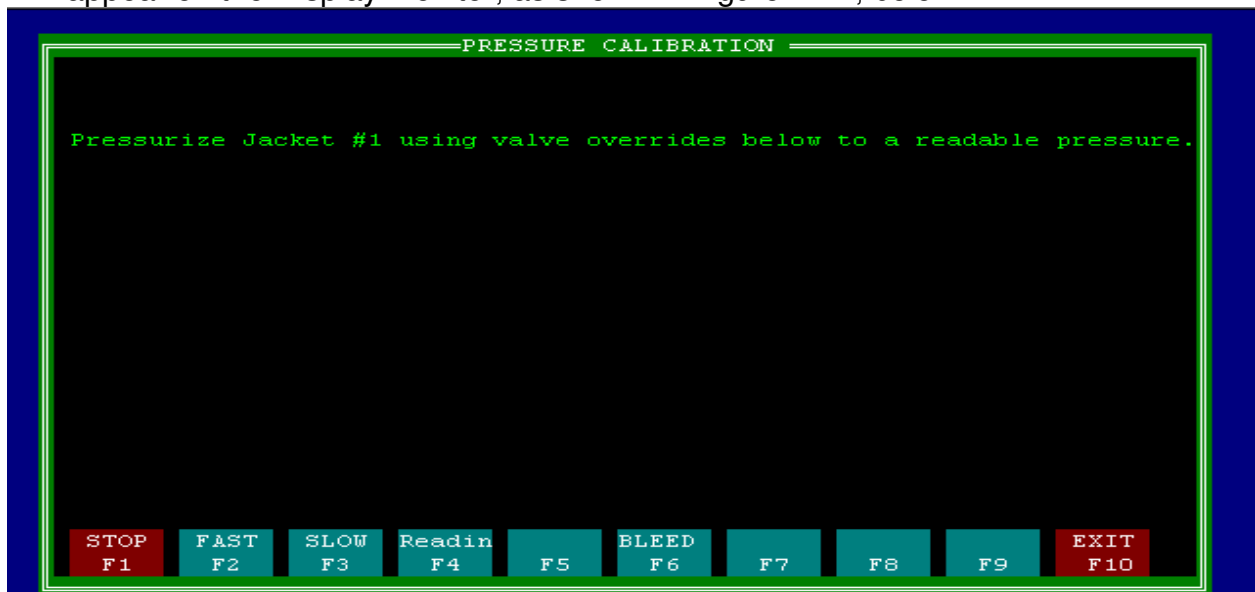

Figure 14-1
5. When the Calibrated Cylinder has been loaded into the test jacket, press any key to continue with the Pressure Calibration program. The Pressure Calibration Menu will appear on the Display Monitor, as shown in Figure 14-1, below.